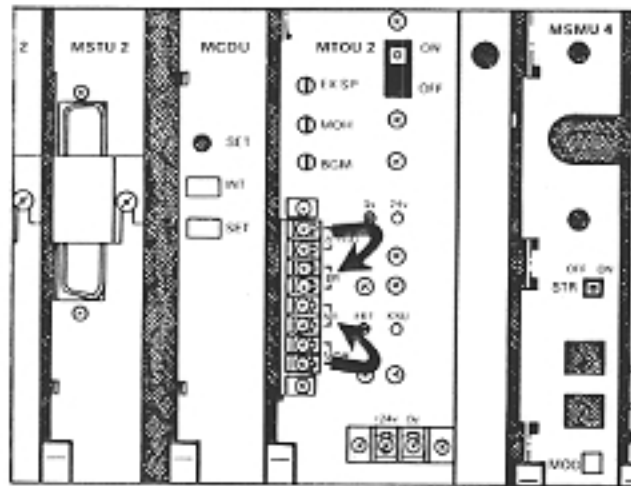

FIGURE 51—NR WIRING CONTACTS
11.92 To provide this service, obtain and install the optional NR (K2) relay on the MTOU PCB per Paragraph 06.11. Connect the external device to the NR contacts on the front of the MTOU (see Figure 51).